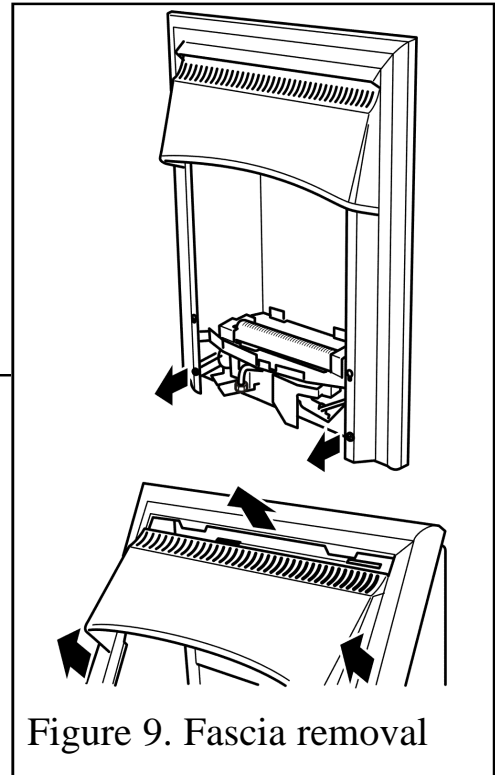

Figure 9. Fascia removal
2. Remove the two screws securing the bottom of the fascia to the sides of the convection box (See figure 9).
3. Raise the fascia to allow the retaining lugs at the top to clear the slots in the convection box hood (See figure 9). Carefully remove the fascia. Place carefully aside.